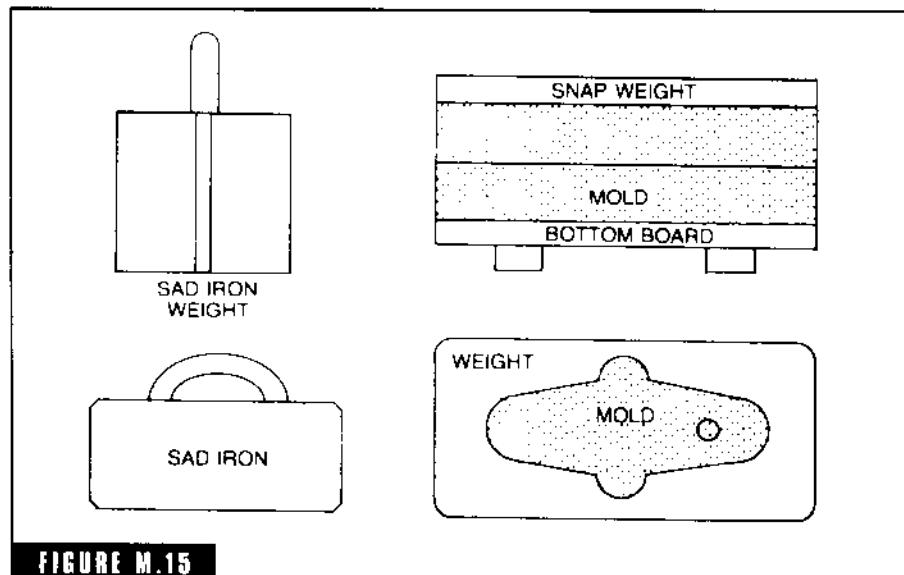

FIGURE M.15
**mold weights** All snap flask work is weighted before molding. In most cases all that is needed is a standard snap weight, which is usually cast by the foundry to suit their own snap sizes (Fig. M-15).